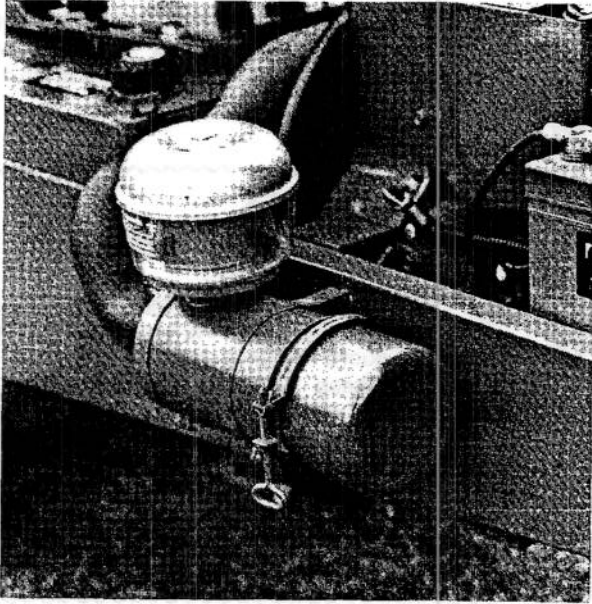

Figure 69
5. Reinstall baffle and cap. Move mounting band behind air cleaner body and tighten it securely. Insure cap is correctly positioned (Fig. 69).